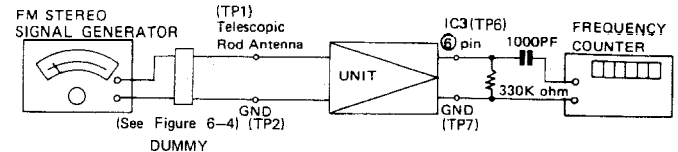

Figure 6-3
- As shown in Figures 6-3 and 6-4, make connection of instrument.